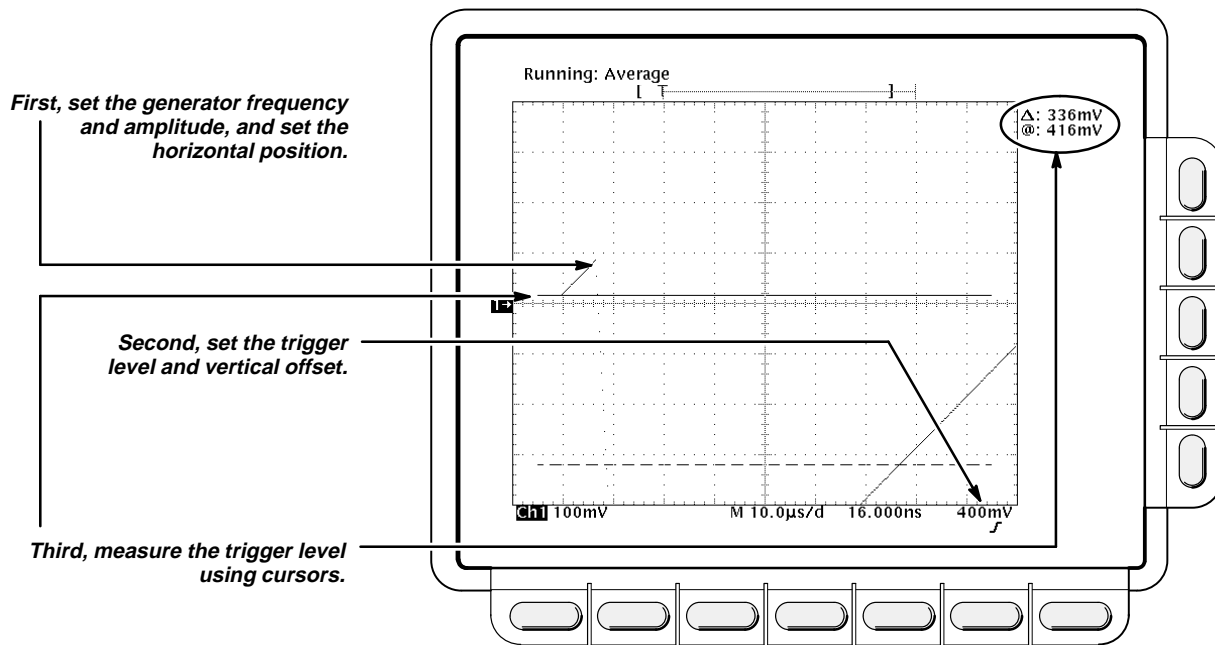

Figure 1-20: Measurement of Trigger-Level Accuracy
- Press the main-menu button **Function**; then press the side-menu button **H Bars**. Rotate the general purpose knob to align the active cursor with the start of the waveform (see Figure 1-20).